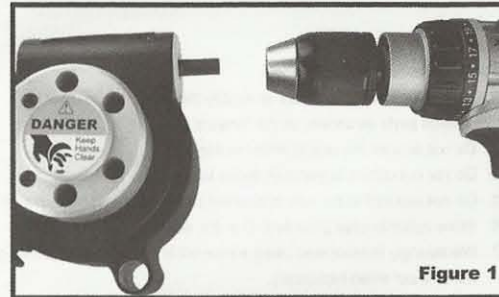

Figure 1
STEP 1: Attach cable cutter drive shaft to drill as shown(Figure 1). Tighten drill chuck securely.